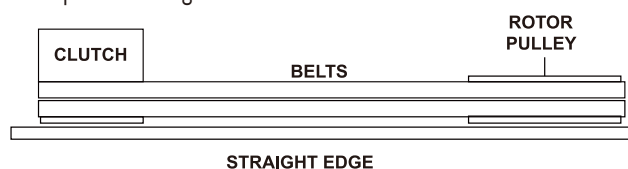

fig.2
5. Check alignment of the clutch with the drive pulley by placing a straight edge across both faces as shown in fig. 2. If adjustment is necessary, correct alignment by moving rotor pulley in or out on the rotor shaft. Do not make adjustment by moving the clutch on the engine shaft.